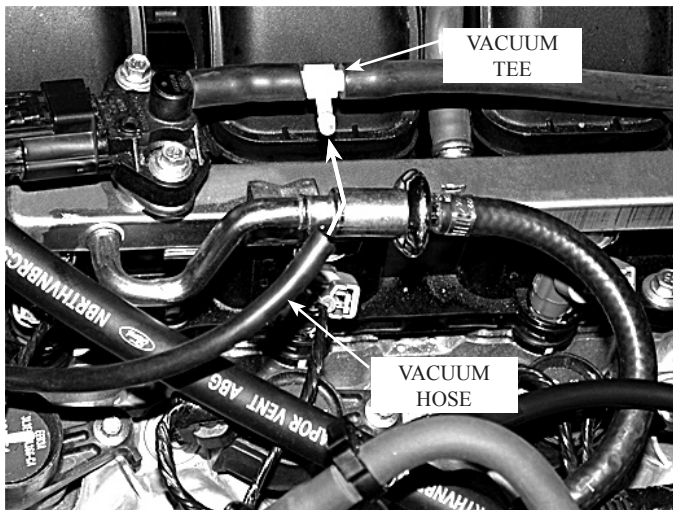

Fig. 8I-b
8. Attach a length of 5/32" vacuum hose to the previously installed bypass valve #1. Connect the open end to the previously installed vacuum line running to the fuel rail from bypass #2 using the TEE provided. (See *Fig. 8I-b.*)